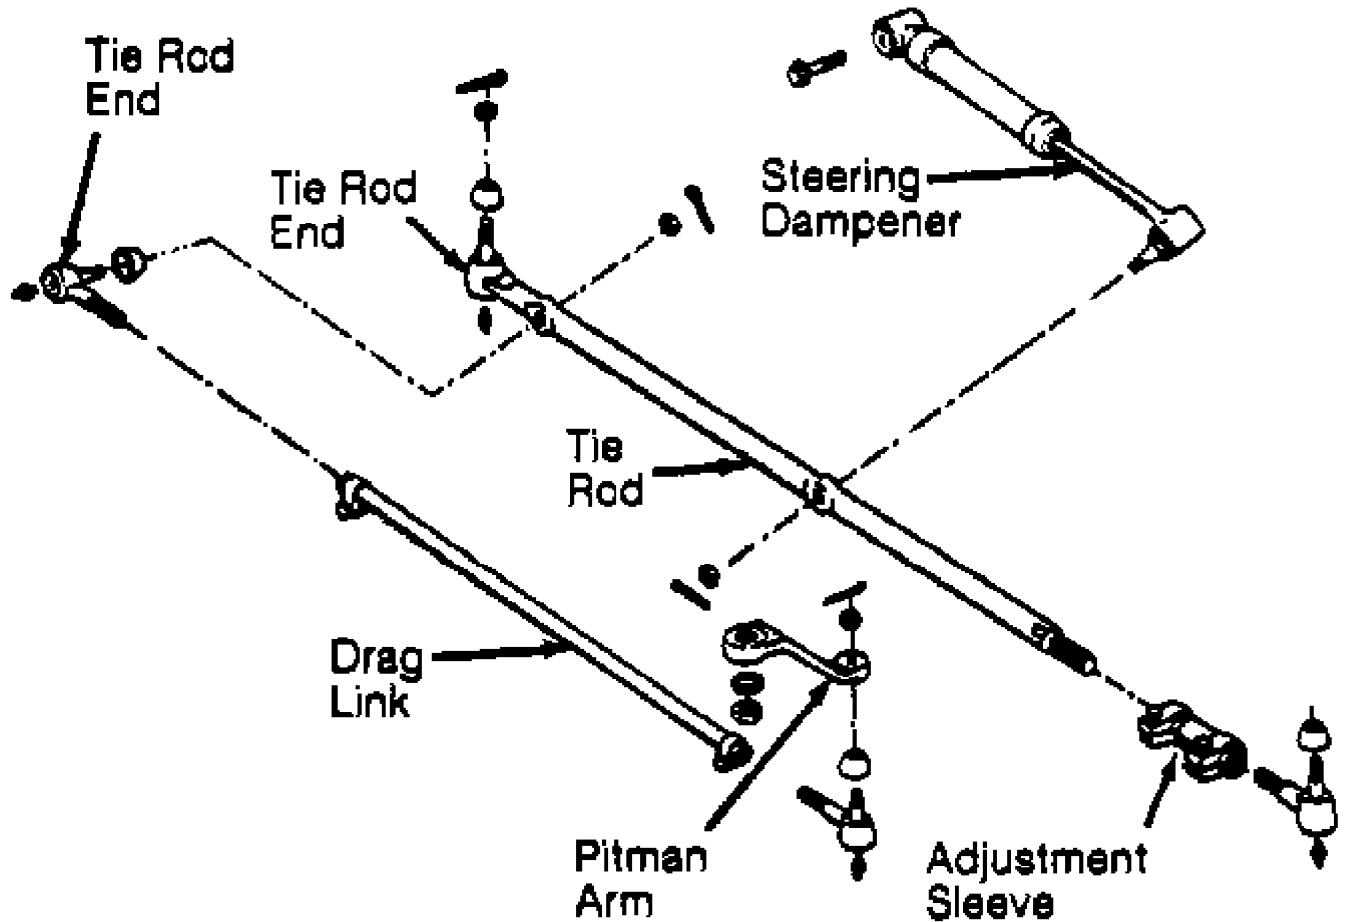

Fig. 4: Exploded View Of Steering Linkage (Wrangler)
2) Loosen tie rod adjustment sleeve clamp bolts. See Fig. 4. Rotate sleeve to adjust toe to specification. See ALIGNMENT SPECIFICATIONS. After adjustment, position clamp bolts so threaded ends face rearward and are angled upward. Tighten sleeve clamp to specification. See TORQUE SPECIFICATIONS TABLE at the end of this article.